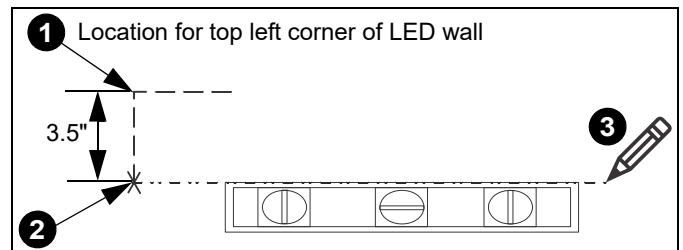
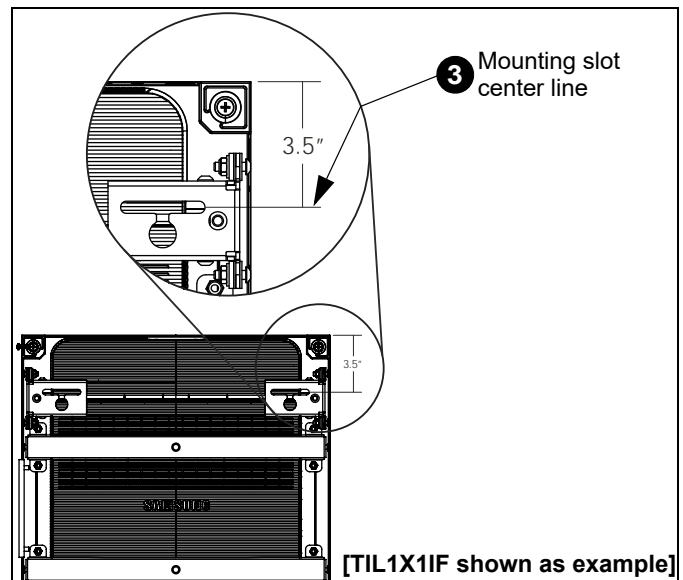

Figure 2
Figure 3
IMPORTANT ! : The top of the LED screen is 3-1/2" above the center line of the mounting slots. (See Figure 2)
1. Determine location for the **top left** corner of the LED wall. (See Figure 2)
2. Make a mark 3-1/2" below the planned top left corner of the LED wall. (See Figure 2)
NOTE: This line will indicate the center line of the mounting slots for the top mount(s) in the video wall. (See Figure 2) and (See Figure 3)